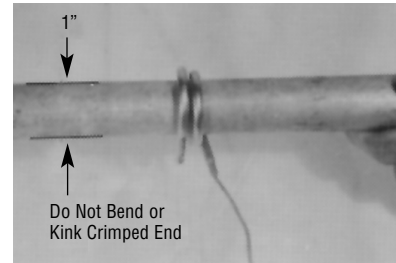

Figure 4
- B.** Do not kink capillary tube. The resulting constrictions in fluid flow can destroy control function or broaden temperature differential. Minimum capillary tube bending diameter is $\frac{1}{2}$ " I.D. (see Figure 4).